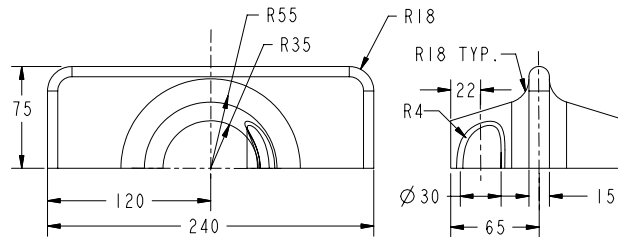

Figure 13-86 Front view and the right-side view of the surface model
- First, examine the model and determine the number of features in it, refer to Figure 13-86.